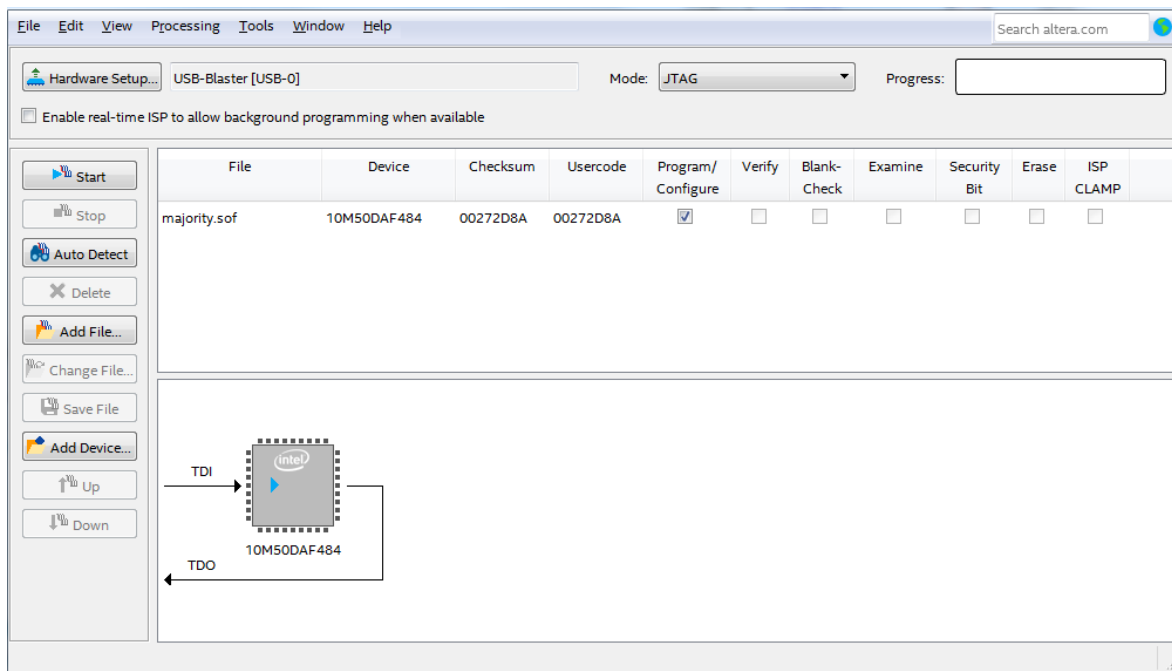

Figure 5. Programmer Tool Configuration
6. Select Tools > Programmer. Connect your DE10-Lite board to your host computer with the USB cable. The Hardware Setup should be set to USB-Blaster[USB-0], as shown in Figure 5. Make sure the majority.sof file is listed and the Program/Configure box is checked as shown in Figure 5. Then click Start.